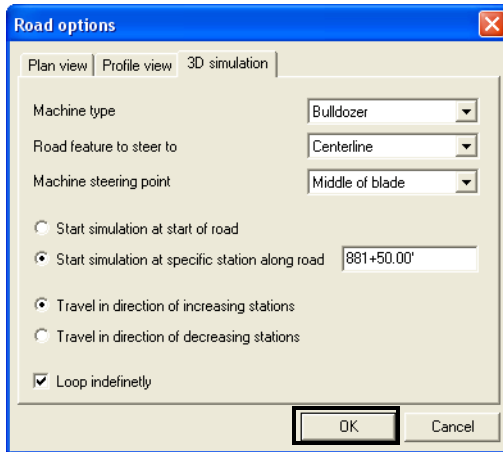

Figure 6-52. Set 3D Simulation View Options
- On the *3D simulation* tab, select the desired parameters for wire frame simulations (Figure 6-52 on page 6-43). ??